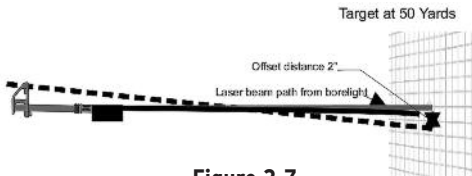

Figure 3-7
- b. the Expected Trajectory Height above the line of sight at 50 meters from the ballistics table for the range at which you want to align your weapon sight. This height according to the ballistics table is 1.56 inches. See Figure 3-7 & 3-8.